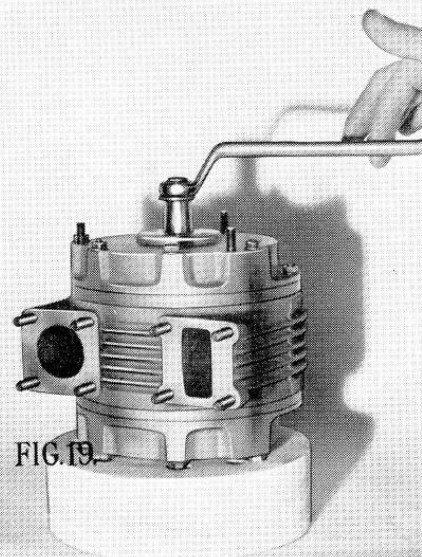

FIG.19.
9. Turn the Drive Shaft gently by hand or with a suitable spanner (Fig. 19).